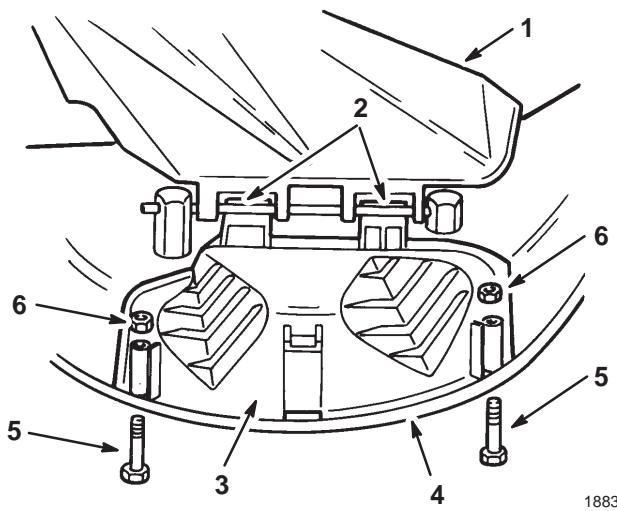

Figure 15
2. Lift the grass deflector and slide the tabs on top of the discharge cover under the grass deflector retaining rod. Rotate the discharge cover down over the opening, and onto the lower lip of the mower (Fig. 15).
3. Secure the discharge cover to the lower lip of the mower with bolts and nuts (Fig. 15).